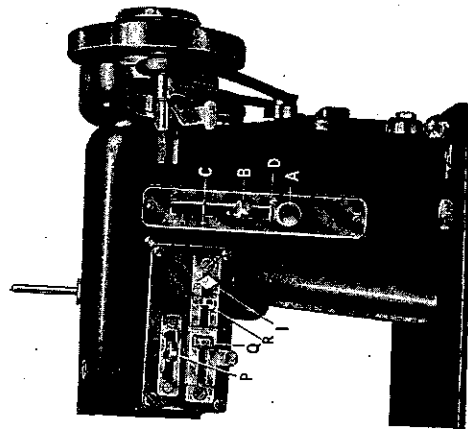

Fig. 22
Should one, however, wish to do *straight stitching* only, the aforementioned needle plate and presser foot can be replaced with a Straight Stitch Needle Plate and Straight Stitch Hinged Foot, which are also furnished with the machine. In such cases the position lever "p" (see figure 22) should be set in left notch.
1. Set position lever "p" (Figure 22) in left notch.
(See Figure 22 for reference.)
1. Set position lever "p" in center notch (Figure 22).
2. Set lever "B" (Figure 22) as close to zero mark as possible, and still allow the material to feed.
3. Set zig-zag stitch lever "R" (Figure 22) for desired stitch width.
1. Set zig-zag stitch lever "R" between zero and #1 (Figure 22).
1. Set lever "B" for "satin" stitch (Figure 22).
3. Set zig-zag stitch lever "R" (Figure 22) between 0-1.
2. Set zig-zag stitch lever "R" at #1 (Figure 22).
1. Set position lever "P" in center notch (Figure 22).
3. Set zig-zag stitch lever "R" at zero (Figure 22).
2. Set position lever "p" in center notch (Figure 22).
1. Set position lever "p" in right notch (Figure 22).
2. Set zig-zag stitch lever "R" on #4 (Figure 22).
2. Set position lever "P" in center notch (Figure 22).
3. Adjust zig-zag stitch lever "R" (Figure 22) on zig-zag stitch scale, according to thickness of cord being used. Heavier cord requires a wider zig-zag stitch. Use closely spaced zig-zag stitches to make a heavy covered raised stitch.